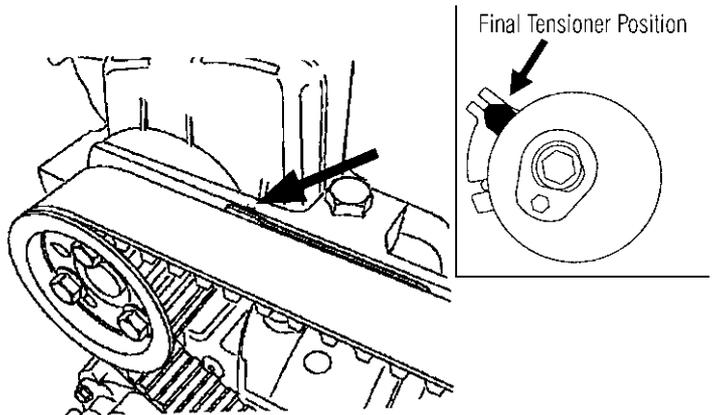

Fig.10
4.3.6 Final Tensioner Position (Fig.10)